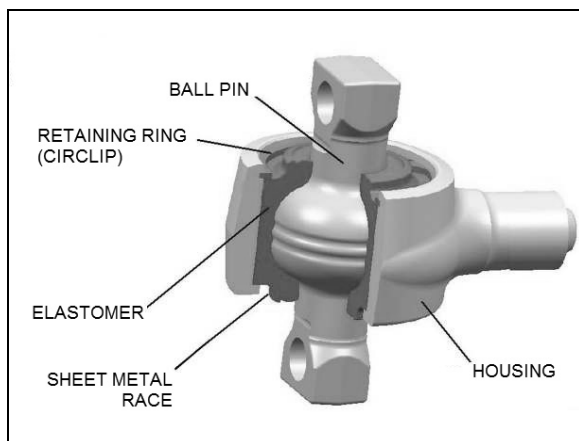

FIGURE 5: BALL PIN JOINT CONSTRUCTION 16186
1. Remove nuts and washers from shock absorbers on upper and lower mounting pins, taking care to identify the inner and outer washers to ease reinstallation. Refer to figure 5 for details.